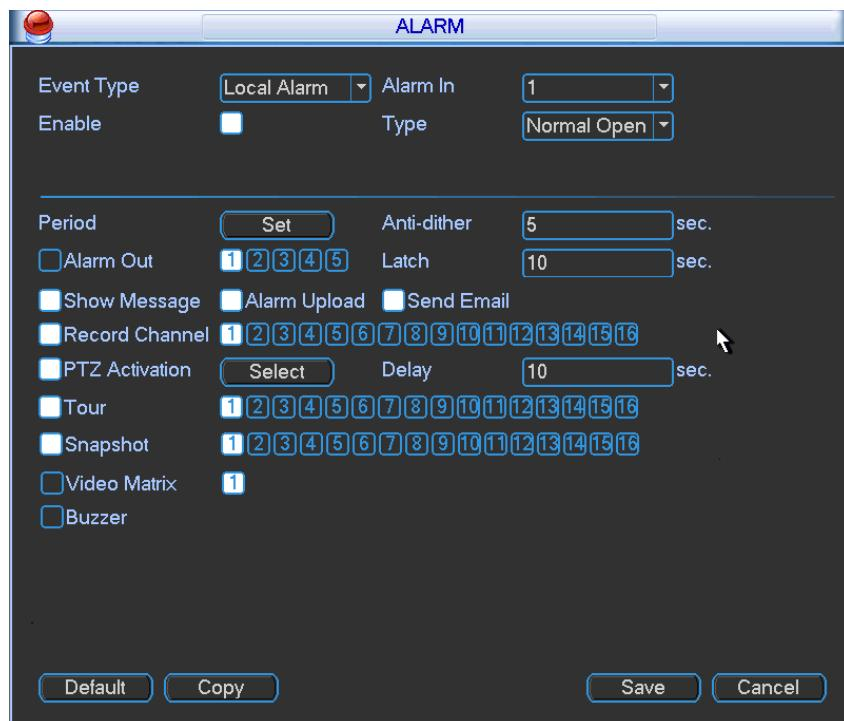
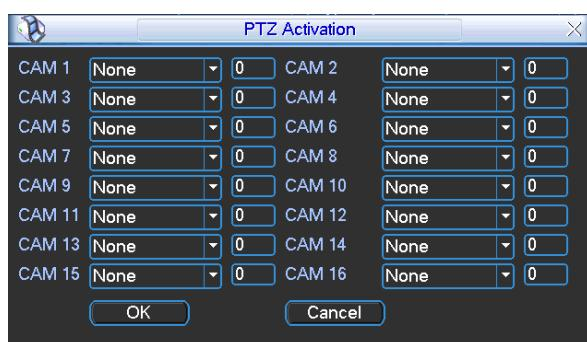

Figure 4-34
Figure 4-35
In the main menu, from Setting to Alarm, you can see alarm setup interface. See Figure 4-34.
Alarm interface is shown as below. See Figure 4-34.
- ❖ In Figure 4-34, click “select” button, you can see an interface is shown as in Figure 4-35. Here you can set the activation operation such as preset tour, pattern and enable.